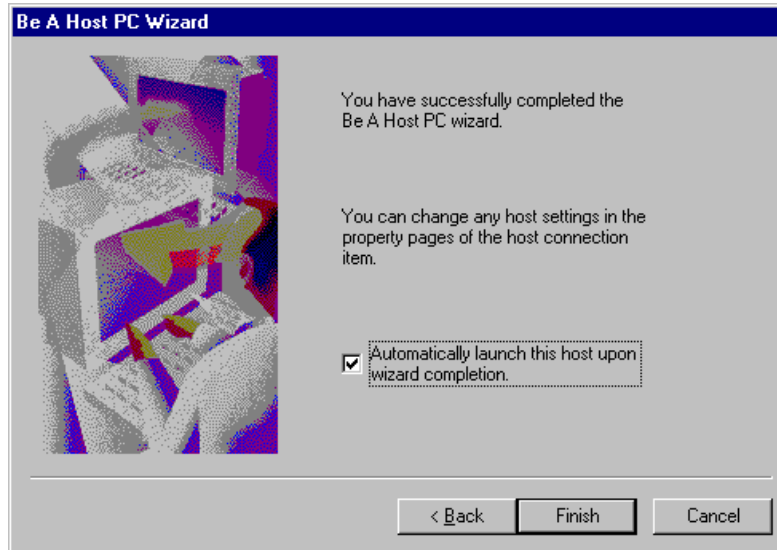

**Figure 5-4. Security Level GUI**
- e. The Security Level GUI will appear (Figure 5-4). Accept the default to use pcAnywhere calling security. We will setup the security parameters later in this procedure. Click on the Next button.